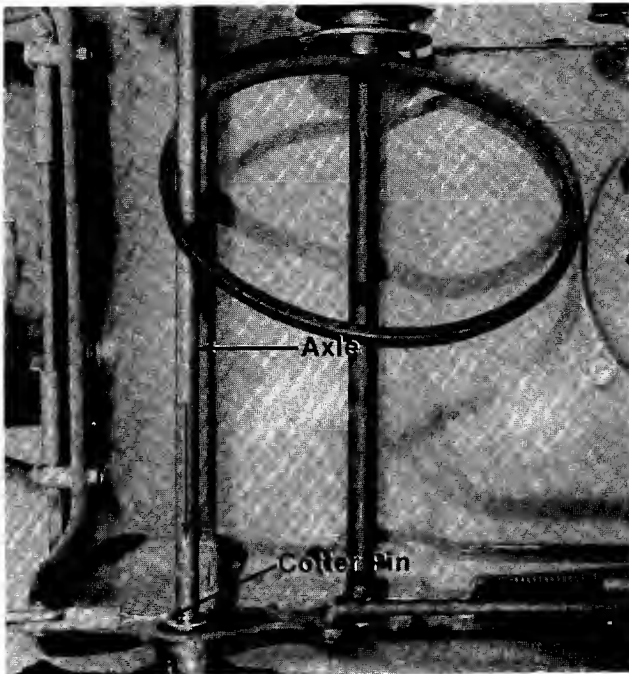

FIGURE 30.
11. Remove the cotter pin next to the bearing by the left wheel and slide the axle to the left. The belt can be removed. See figure 30.